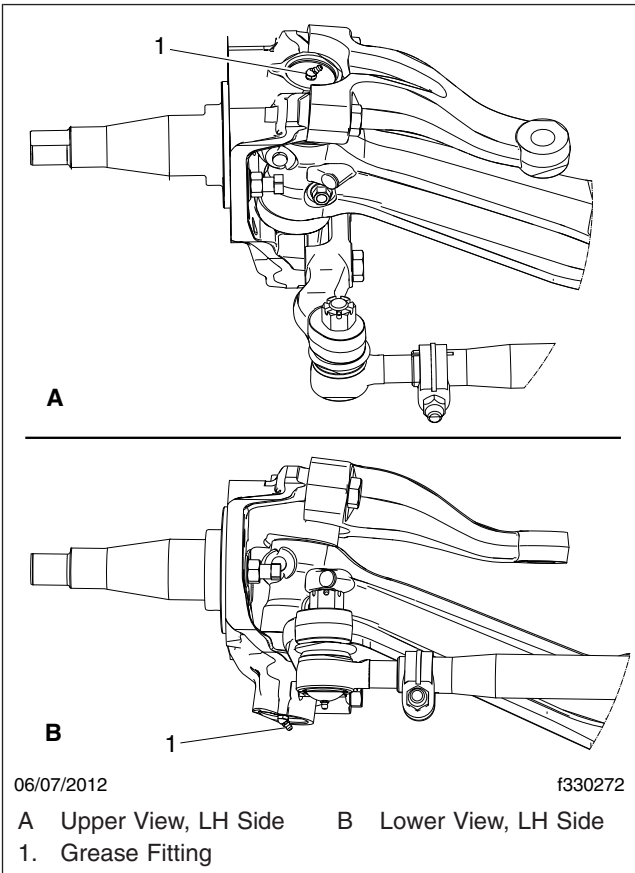
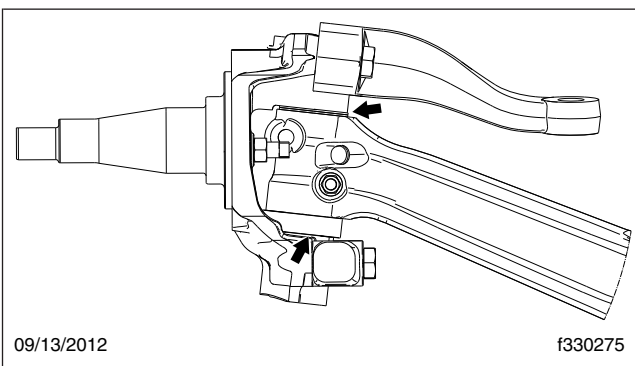

Fig. 7, Kingpin Grease Fittings, Detroit Axles
Fig. 8, Kingpin Grease Exit Points, Detroit Axles
3. Apply multipurpose chassis grease, NLGI Grade 1 (6% 12-hydroxy lithium stearate grease) or NLGI Grade 2 (8% 12-hydroxy lithium stearate grease), until new grease is seen at the junctions of the axle beam and knuckles. For locations of grease fittings, see Fig. 7; for grease exit points, see Fig. 8.